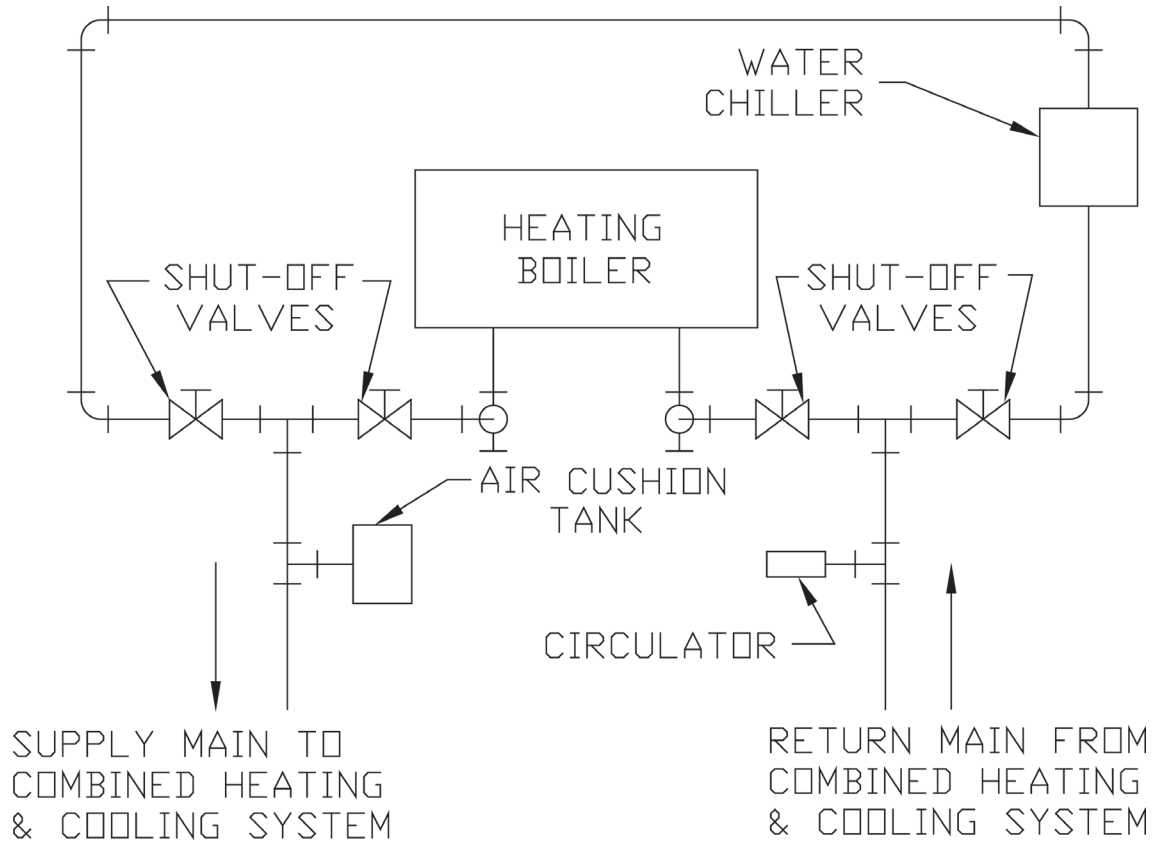

Figure 13: Recommended Piping for Combination Heating and Cooling (Refrigeration) System
1. If this boiler is used in connection with refrigeration systems, the boiler must be installed so that the chilled medium is piped in parallel with the heating boiler using appropriate valves to prevent the chilled medium from entering the boiler. See Figure 13. Also, consult Residential Hydronic Heating Installation and Design I=B=R Guide.